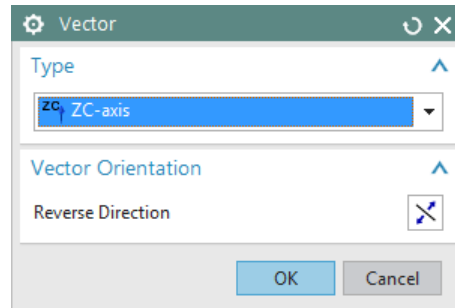

Figure 16-78 The *Vector* dialog box
1. Choose the **Set Parting Direction** tool from the **Settings** group to set the parting direction of the model; the **vector** dialog box is displayed, refer to Figure 16-78.